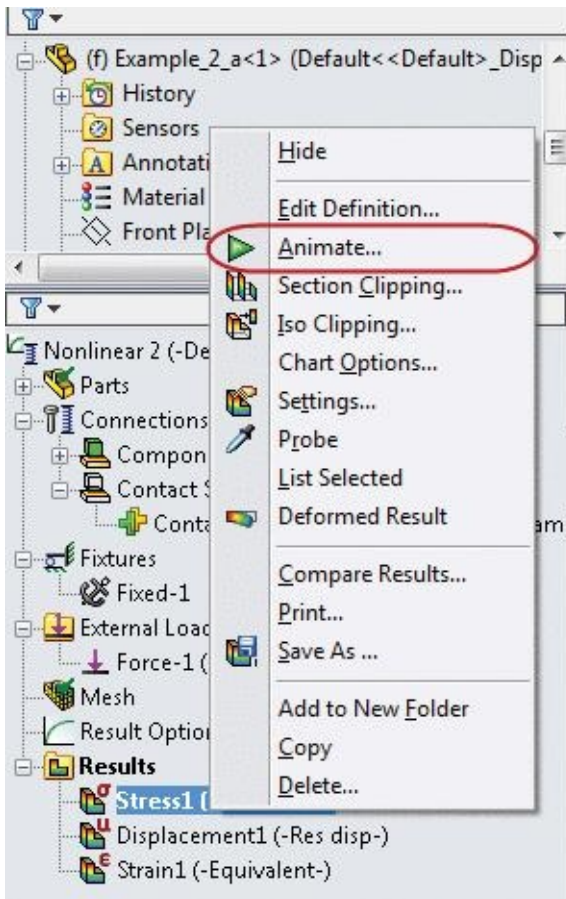

Figure-25. Animate button
- To animate any of the result, right-click on the result name from the **Analysis Manager** and select the **Animate** button from the shortcut menu; refer to Figure-25.